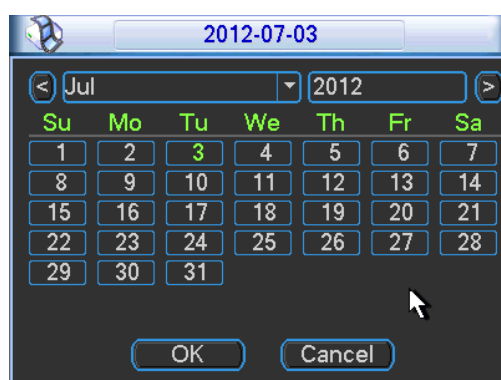

Figure 4-17
- Record types: There are four types: regular, motion detection (MD), Alarm, MD & alarm.
- Holiday setting: Click it you can see an interface shown as in Figure 4-17. Here you can set holiday date. Check the box, it means current channel shall record as your holiday setup. Please go to the Period interface to set the holiday date record setup.